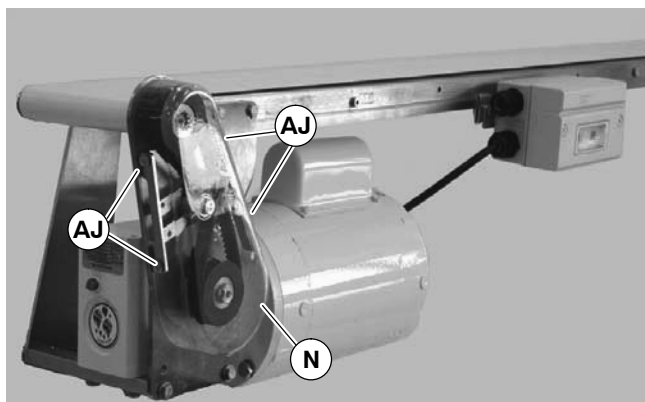

Figure 35
NOTE: Do not over-tighten screws (AJ of Figure 35).
5. Attach cover (N of Figure 35) with four (4) screws (AJ). Tighten screws to 35 in-lb (4 Nm).